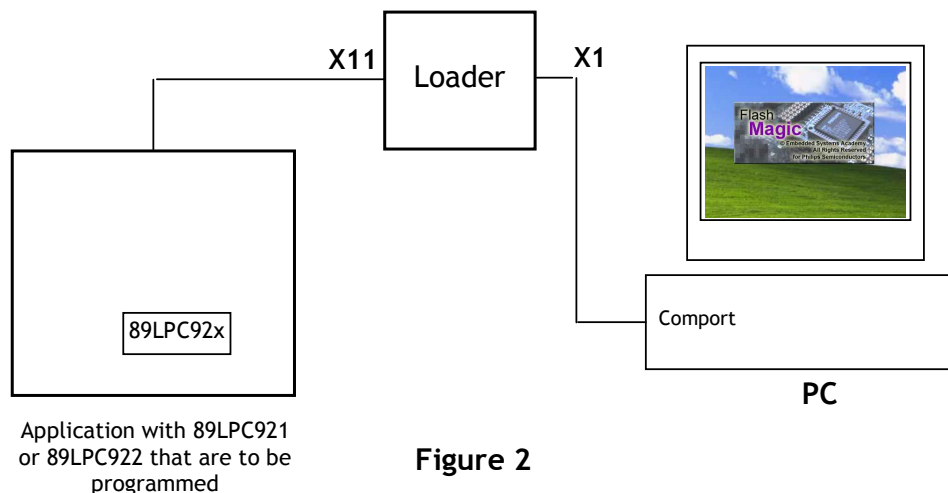

Figure 2
1. The Loader is connected to the application board that are to be programmed via connector X11 (figure 2). No power on the application board. ^{*note}